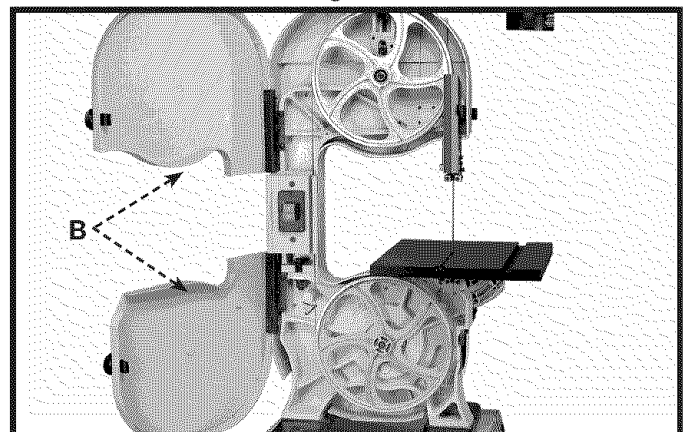

Fig. 23A
2. Fig. 23A illustrates the doors (B) in open position.